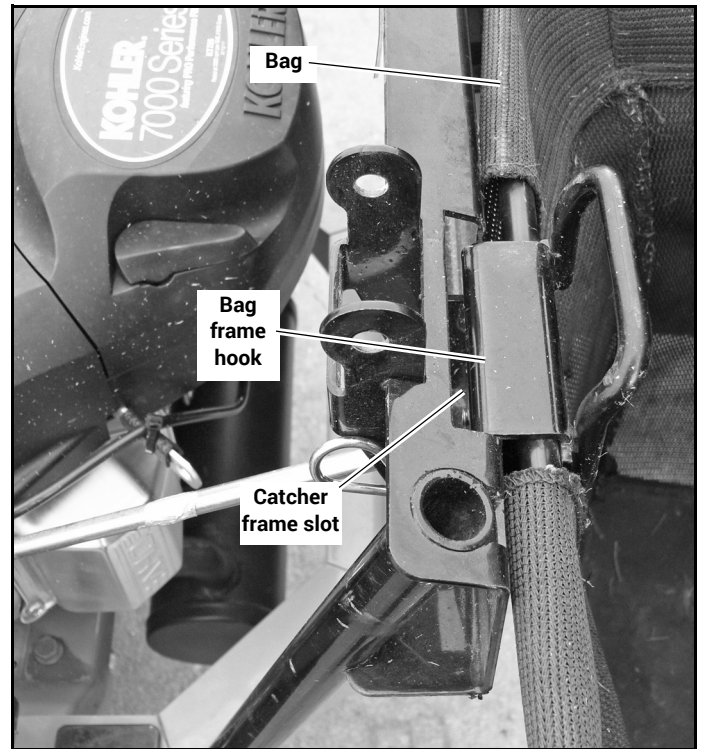

Figure 3-10
12. Place the bags on the catcher frame by inserting the bag frame hook into the catcher frame slot. Figure 3-10